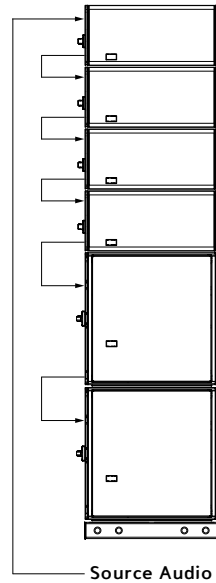

Figure 6: Mixed Groundstack (ratio 2:2)
- Mixed groundstacks of LINAs and 750-LFCs (Figure 6)